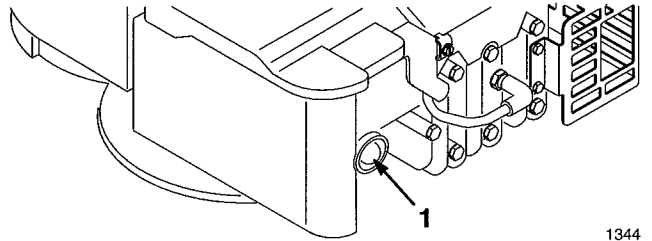

**Figure 6**
1. Move throttle lever to  FAST position (Fig. 6).